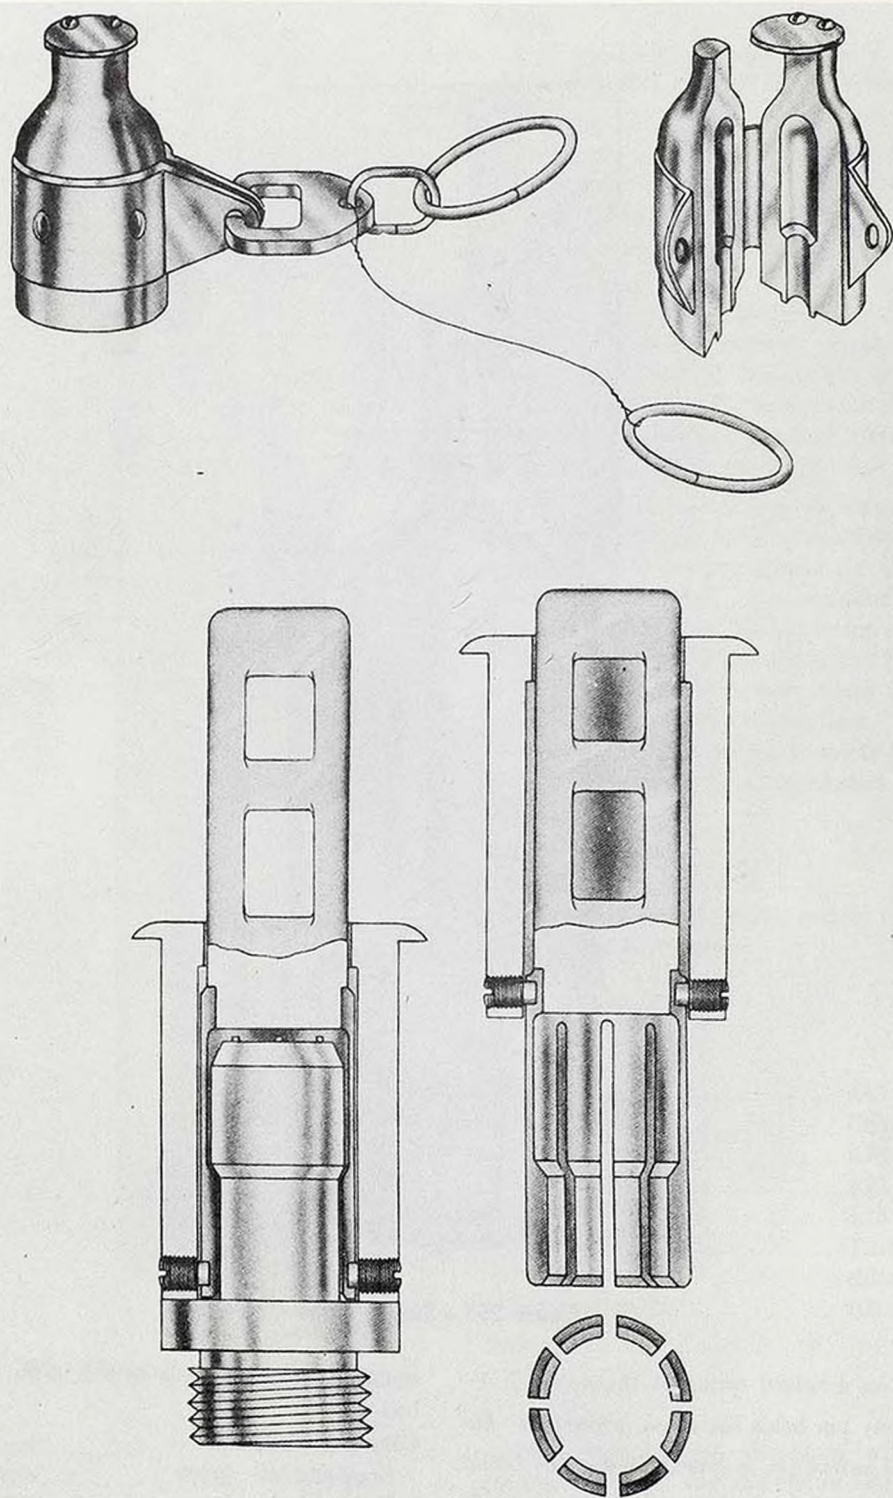

Figure 262 - Secondary Safety Devices
1. **Safety device Model 1928:** This device is incorporated with the 1928 and 1929 Models of the R. S. A. Fuze when used for horizontal suspension of 10 and 50-kg. bombs, and is shown at the top of Figure 262. It is also used in a slightly modified form with R. S. A. Fuze Model 1925. It consists of two symmetrical steel hoods joined by a band of spring steel. The interior of these hoods is shaped to conform with the contour of the fuze head. The safety device is closed by means of a clip to which cord and a ring are attached. The latter is attached to the ball-release cord, so that the clip is pulled away when the bomb is released. The safety device then opens during the descent of the bomb and falls away.
2. **Safety device, Sch. R. ("Schneider-Raymondie"):** This device, shown in the lower portion of figure 262, is used with R. S. A. Fuze Models 1928 and 1929, for vertical suspension of 10- and 50-kg. bombs. It consists of a steel sleeve through which passes the suspension lug. Attached to the base of the latter is a spring-steel collet, each steel strip having the projection to grip the fuze head. The sleeve can slide over the collet guided by two